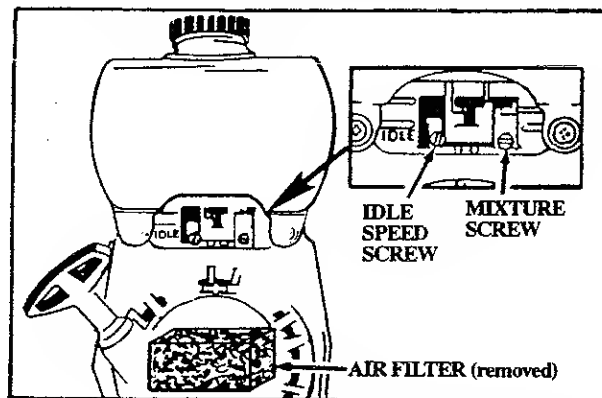

Figure 31
- e. Turn Mixture Screw (Figure 31) clockwise → until fully closed, but do not overtighten to avoid damaging the needle seats. Open Mixture Screw one and one-eighth (1-1/8) turn counterclockwise ←.
- f. Turn Idle Speed Screw (Figure 31) clockwise → until it stops. Open Idle Speed Screw five (5) full turns counterclockwise ←.